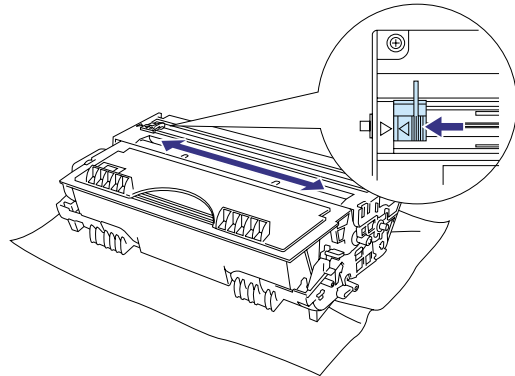

Fig. 5-5
- (6) Clean the primary corona wire inside the drum unit by gently sliding the wire cleaner (blue tab) to the right end and left end several times. (Fig. 5-5)
- (7) Return the cleaner to the home position before re-installing the drum unit.
- (8) Re-install the drum unit into the printer and close the front cover.
- *Make sure that the wire cleaner on the drum unit is returned to the home position (▲ mark position) before re-installing the drum unit into the printer, or printed pages may have vertical stripes. (Refer to Fig. 5-5.)*